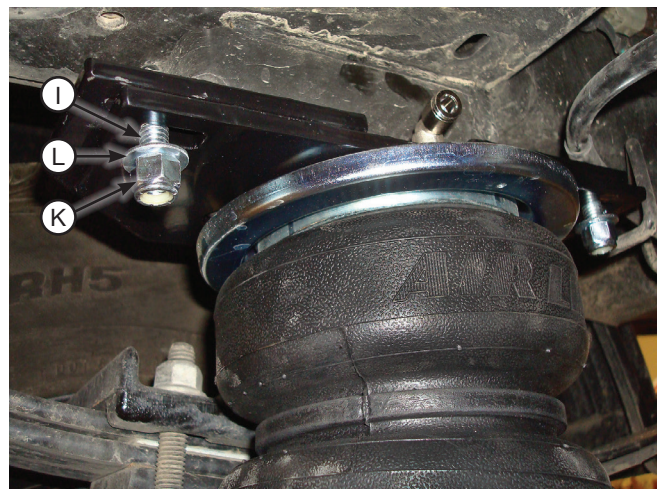

Fig. 18
8. Raise the axle or lower the frame until the air spring and frame brackets just touch. Insert the 3/8"-16 x 1 1/4" carriage bolts (I) down through the top frame brackets as shown (Fig. 18) and cap with 3/8" flat washers (L) and 3/8"-16 nylon lock nuts (K). Leave loose at this time.